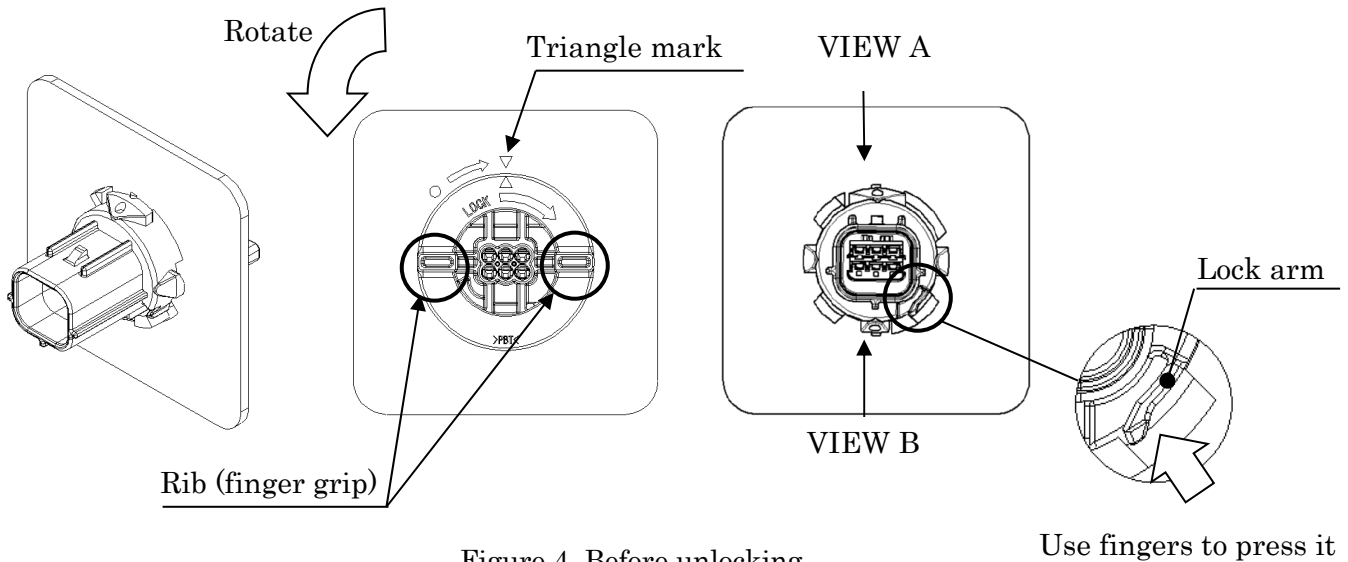

Figure 4. Before unlocking
- 1) Pressing the lock arm with a finger, hold the ribs with fingers or a jig to rotate it in a counter-clockwise direction to release the locking. (See Figure 4)